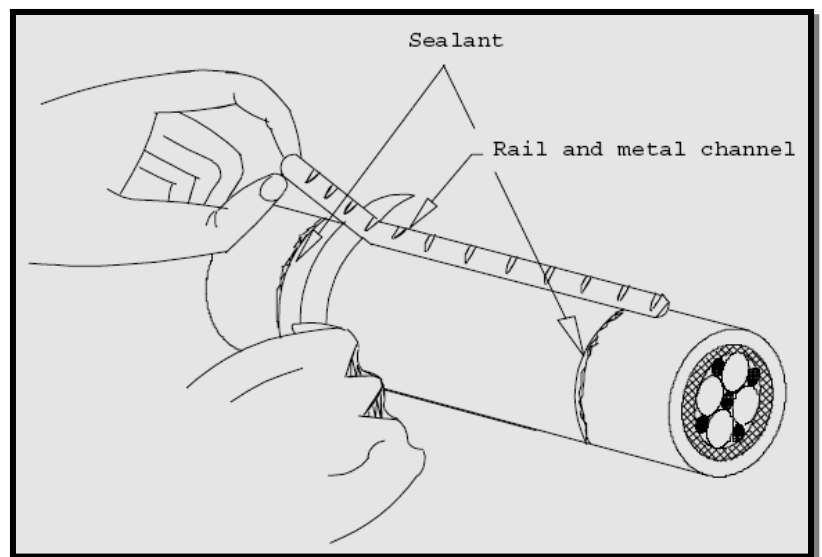

Figure 2-84. Trimming Rails and Metal Channel
**Step 10** - When the sleeve has cooled, the rail and metal channel may be trimmed from the sleeve to provide greater flexibility to the cable (see figure 2-84).